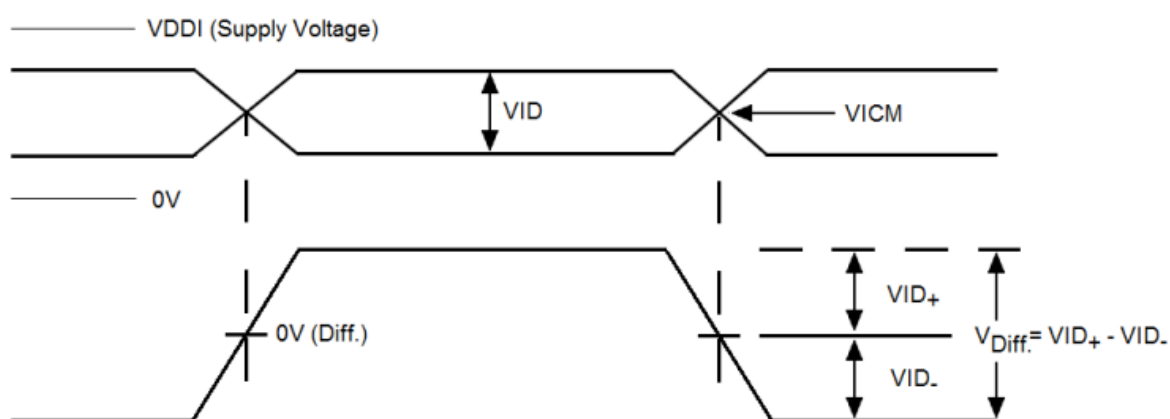

FIGURE 1: VID and VICM for Differential Inputs.
2. Figure 1 depicts the VID and VICM for the differential inputs. Note that VID is half of VDiff, and is equivalent to a single-ended signal referenced from one input to ground.